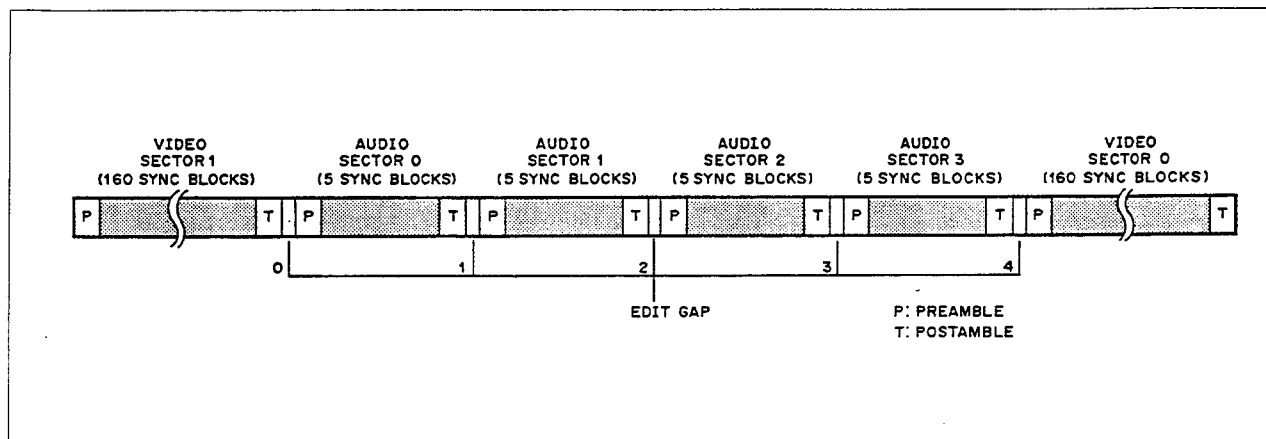

Fig. 1-2-5. Contents of Program Tracks
Fig. 1-2-5 show the contents of the program tracks. The data which configures the program tracks will now be described.
As shown by Fig. 1-2-5, all sectors start with the preamble sequence. Each preamble is composed of 30 bytes of data. The sync pattern and identification pattern (ID) are the same as what was described in sections (B) and (C).
As shown by Fig. 1-2-5, all sectors are completed with a postamble. The postamble is composed of 6 bytes of data, two bytes of which constitute the sync pattern and the remaining 4 bytes of which constitute the identification pattern (ID). These are the same as what was described in sections (B) and (C).